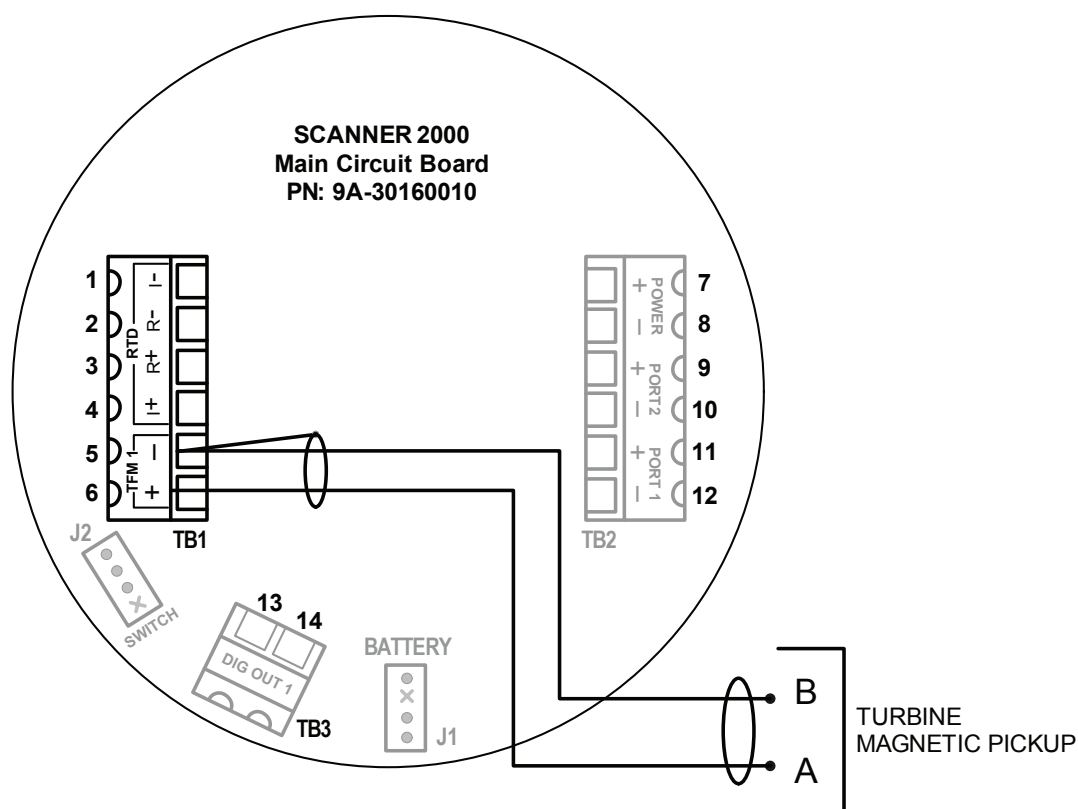

Figure 3.4—Flowmeter input wiring
6. Connect the flowmeter input wiring to terminal block TB2, if appropriate. See Figure 3.4, page 63.
The Turbine Input 1 on the main circuit board provides the turbine flowmeter input signal generated by a magnetic pickup, enabling the Scanner 2000 to calculate and display instantaneous flow rates and accumulated totals. Wire as shown in Figure 3.4.